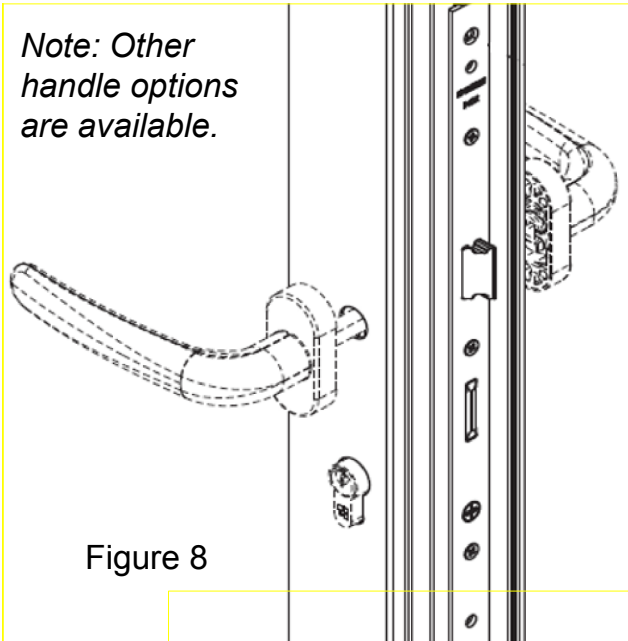

Figure 8
C. Slide the handle gaskets and then the handles onto each end of the spindle (See figure 8).